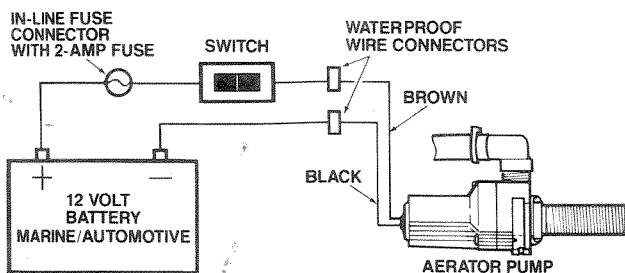

FIGURE 2
- Using the full length of wire provided (and additional wire, if necessary), wire pump as shown in the wiring diagram (Figure 2). Make sure it is a 12 volt DC battery power source only. Higher voltage will damage pump motor.